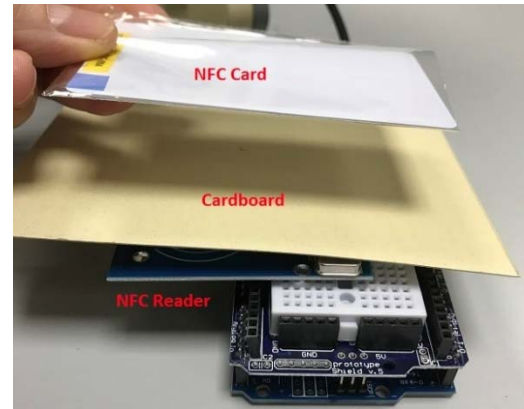

Figure 10b Illustration for Step 5.2.7.
5.2.7 Repeat Step 5.2.6 with the reader covered with a piece of cardboard. See Figure 10b.